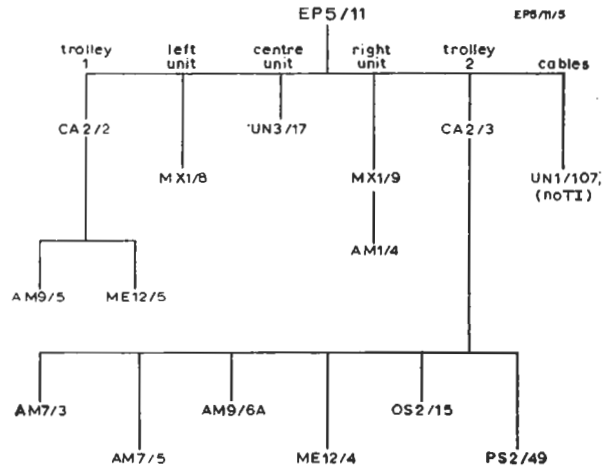

Fig. 1. EP5/11 Coded Units and Subunits
**Summary of Equipment (Fig. 1)**